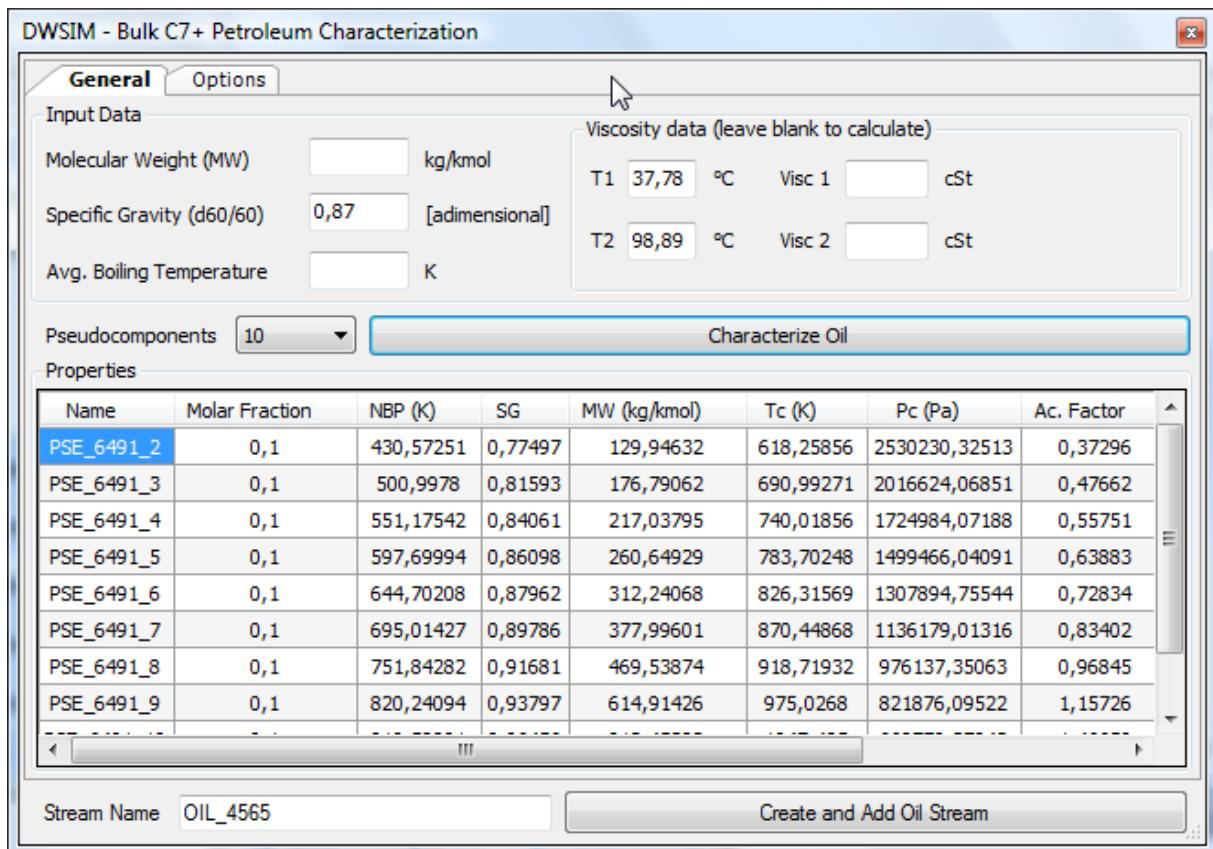
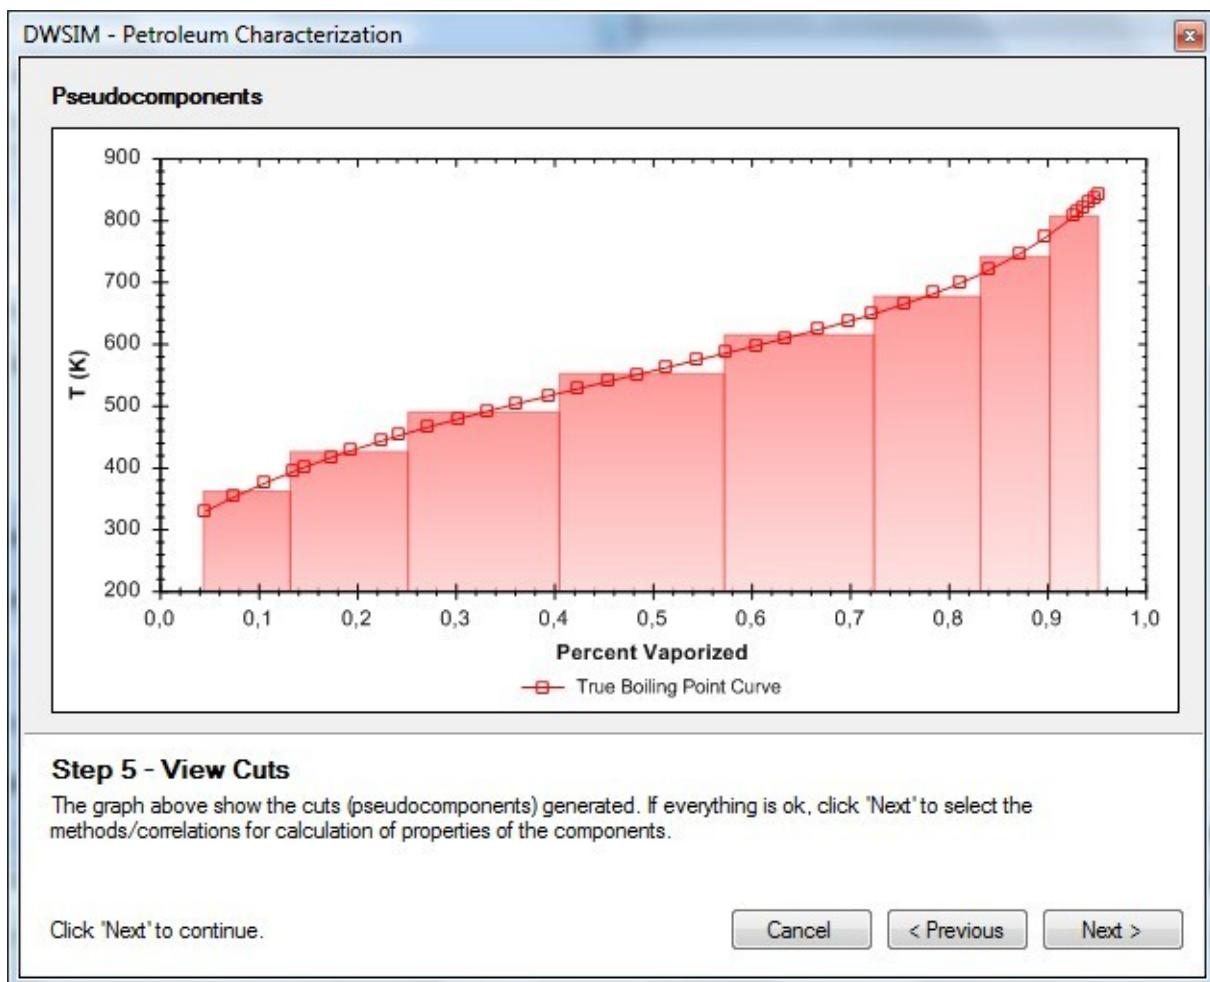

Figure 52: C7+ petroleum fraction characterization utility.
Figure 53: Characterizing petroleum from distillation curves.
DWSIM provides three tools for characterization of petroleum fractions. One of them characterizes C7+ fractions from bulk properties (Figure 52). The other characterizes the oil from an ASTM or TBP distillation curve (Figure 53). There is also a tool to create pseudocompounds from tabular data.
- **Characterization from bulk properties** The method itself requires a minimum of information to generate the pseudocomponents, though the more data the user provides, the better will be the results (Figure 52). It is recommended that the user provides the specific gravity of the C7+ fraction at least. Viscosity data is also very important.
The interface has a wizard-like style, with various customization options (Figure 53):